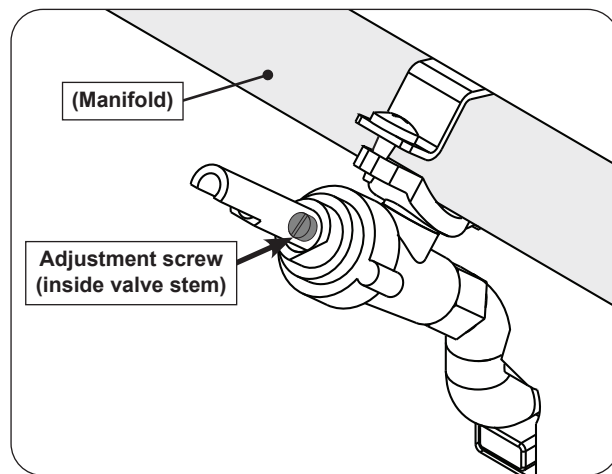

Fig. 38-1 Valve adjustment screw location
4. Locate the FLATHEAD adjustment screw found inside the valve stem (see Fig. 38-1).